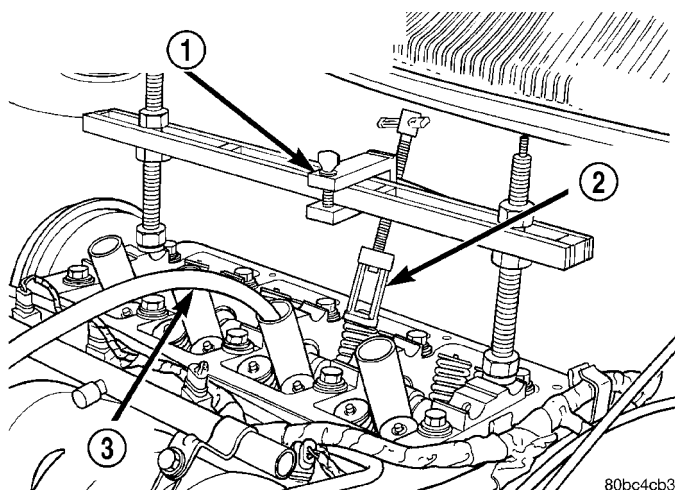

Fig. 37 Valve Spring - Removal/Installation
(1) Remove the cylinder head cover. (Refer to 9 - ENGINE/CYLINDER HEAD/CYLINDER HEAD COVER(S) - REMOVAL)
(2) Remove rocker arm shafts assemblies. (Refer to 9 - ENGINE/CYLINDER HEAD/ROCKER ARM / ADJUSTER ASSY - REMOVAL)
(3) Rotate crankshaft until piston is at TDC on compression stroke.
(4) With air hose attached to adapter tool installed in spark plug hole, apply 90-120 psi air pressure.
(5) Using Special Tool MD-998772A with adapter 6779 (Fig. 37) compress valve springs and remove valve locks.
(6) Remove the valve spring.
(7) Remove the valve stem seal. (Refer to 9 - ENGINE/CYLINDER HEAD/VALVE STEM SEALS - REMOVAL)